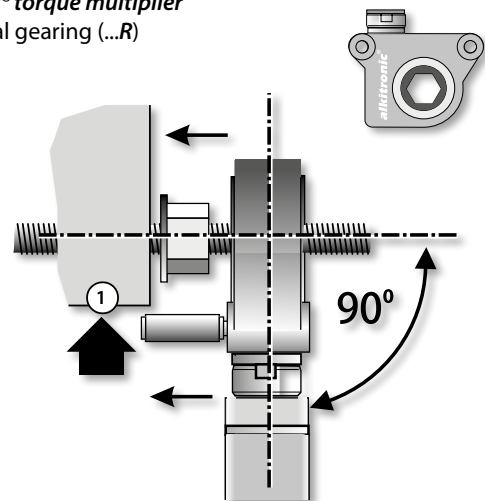
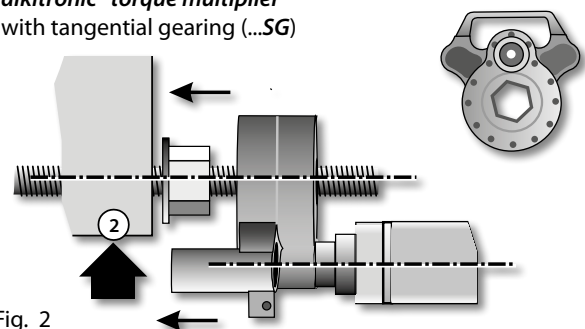

Fig. 1
Fig. 2
- A sure, stable counter-mount (Fig. 1/1)/(Fig. 2/2) must be ensured.
- keep the *alkitronic*® *EF-R* multiplier in a 90 degrees angle to the bolt (Fig. 1).
- keep the *alkitronic*® *EF-SG* multiplier in parallel line to the bolt (Fig. 2).